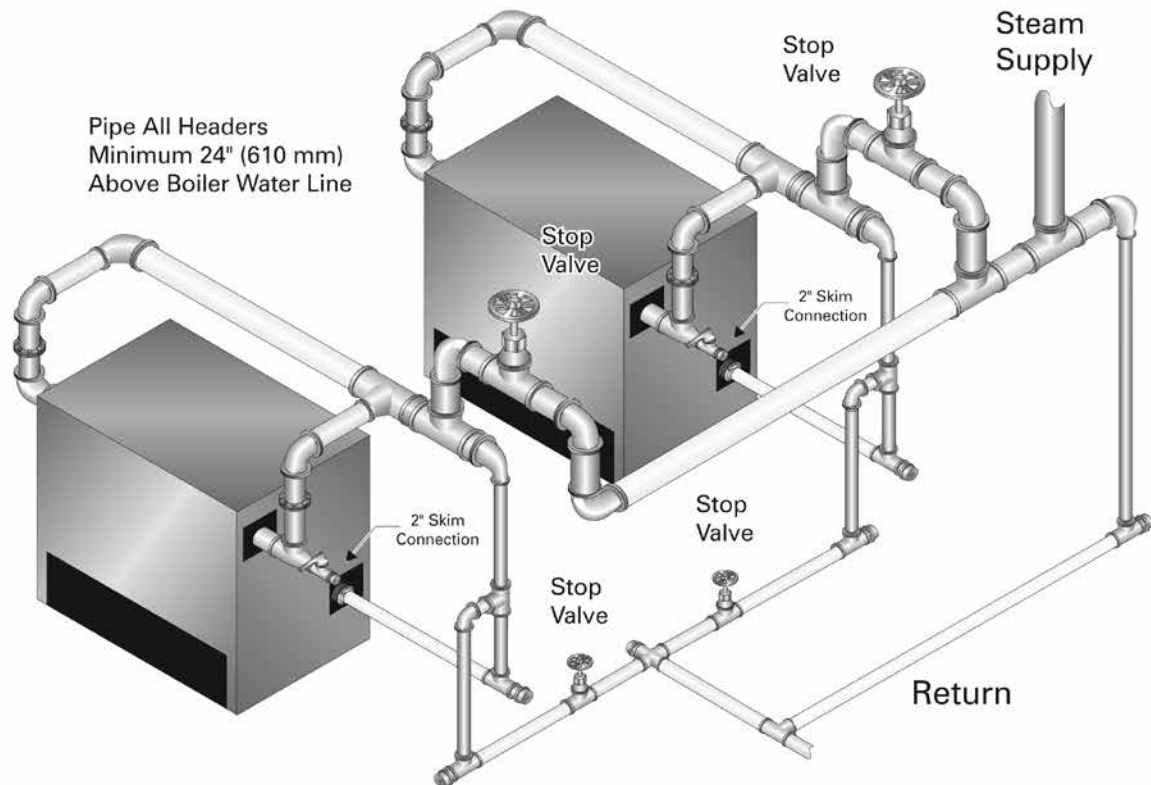
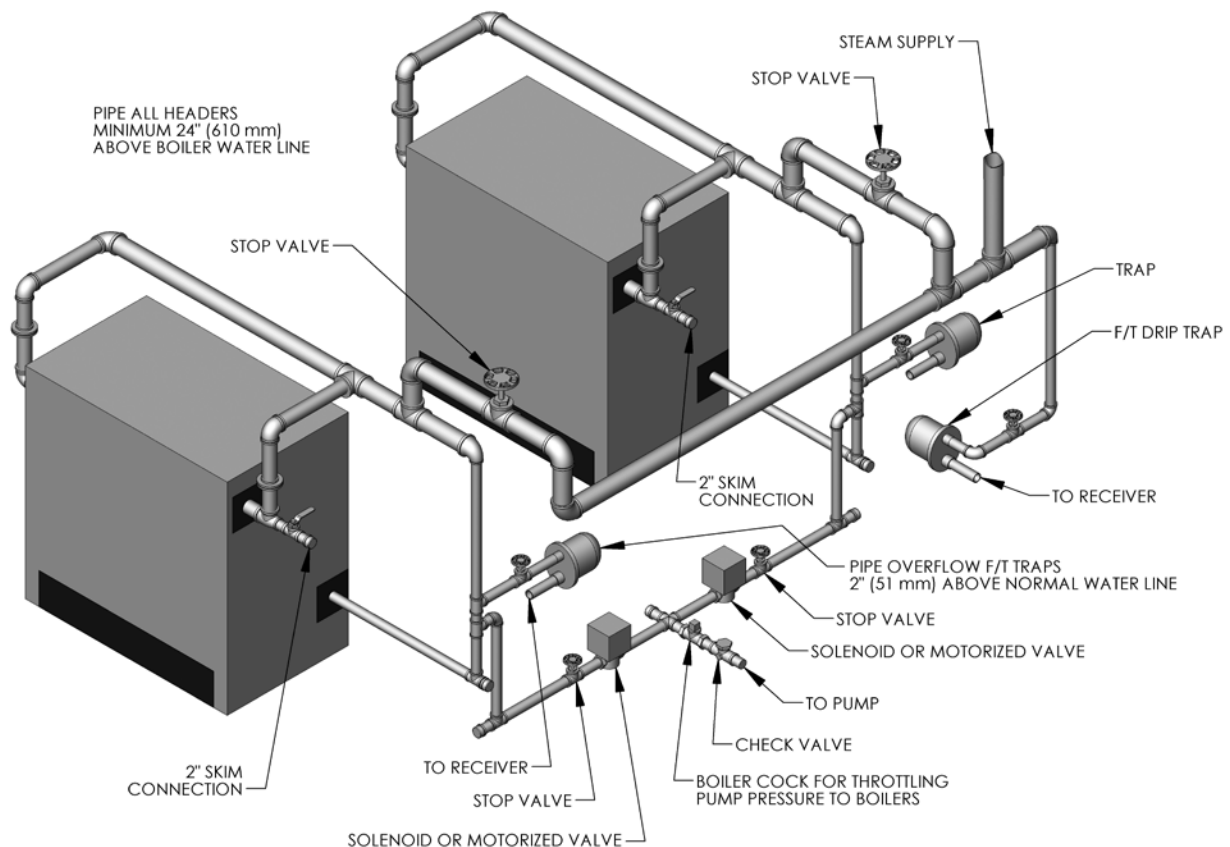

Figure 5.5: Piping Multiple Boilers, Typical, Gravity Return Systems
Figure 5.6: Piping Multiple Boilers, Typical, Pumped Return Systems
- Figure 5.5 shows typical piping for multiple boiler Gravity Return systems. Figure 5.6 shows typical piping for multiple boiler Pumped Return systems.